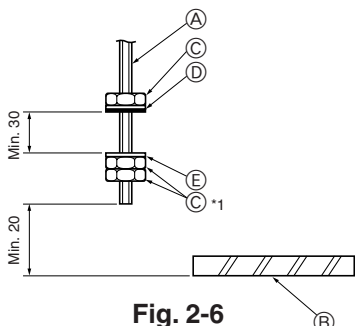

Fig. 2-6
- ① Suspension bolts M10 (3/8") (procure locally)
2.4. Unit suspension procedures (Fig. 2-6)